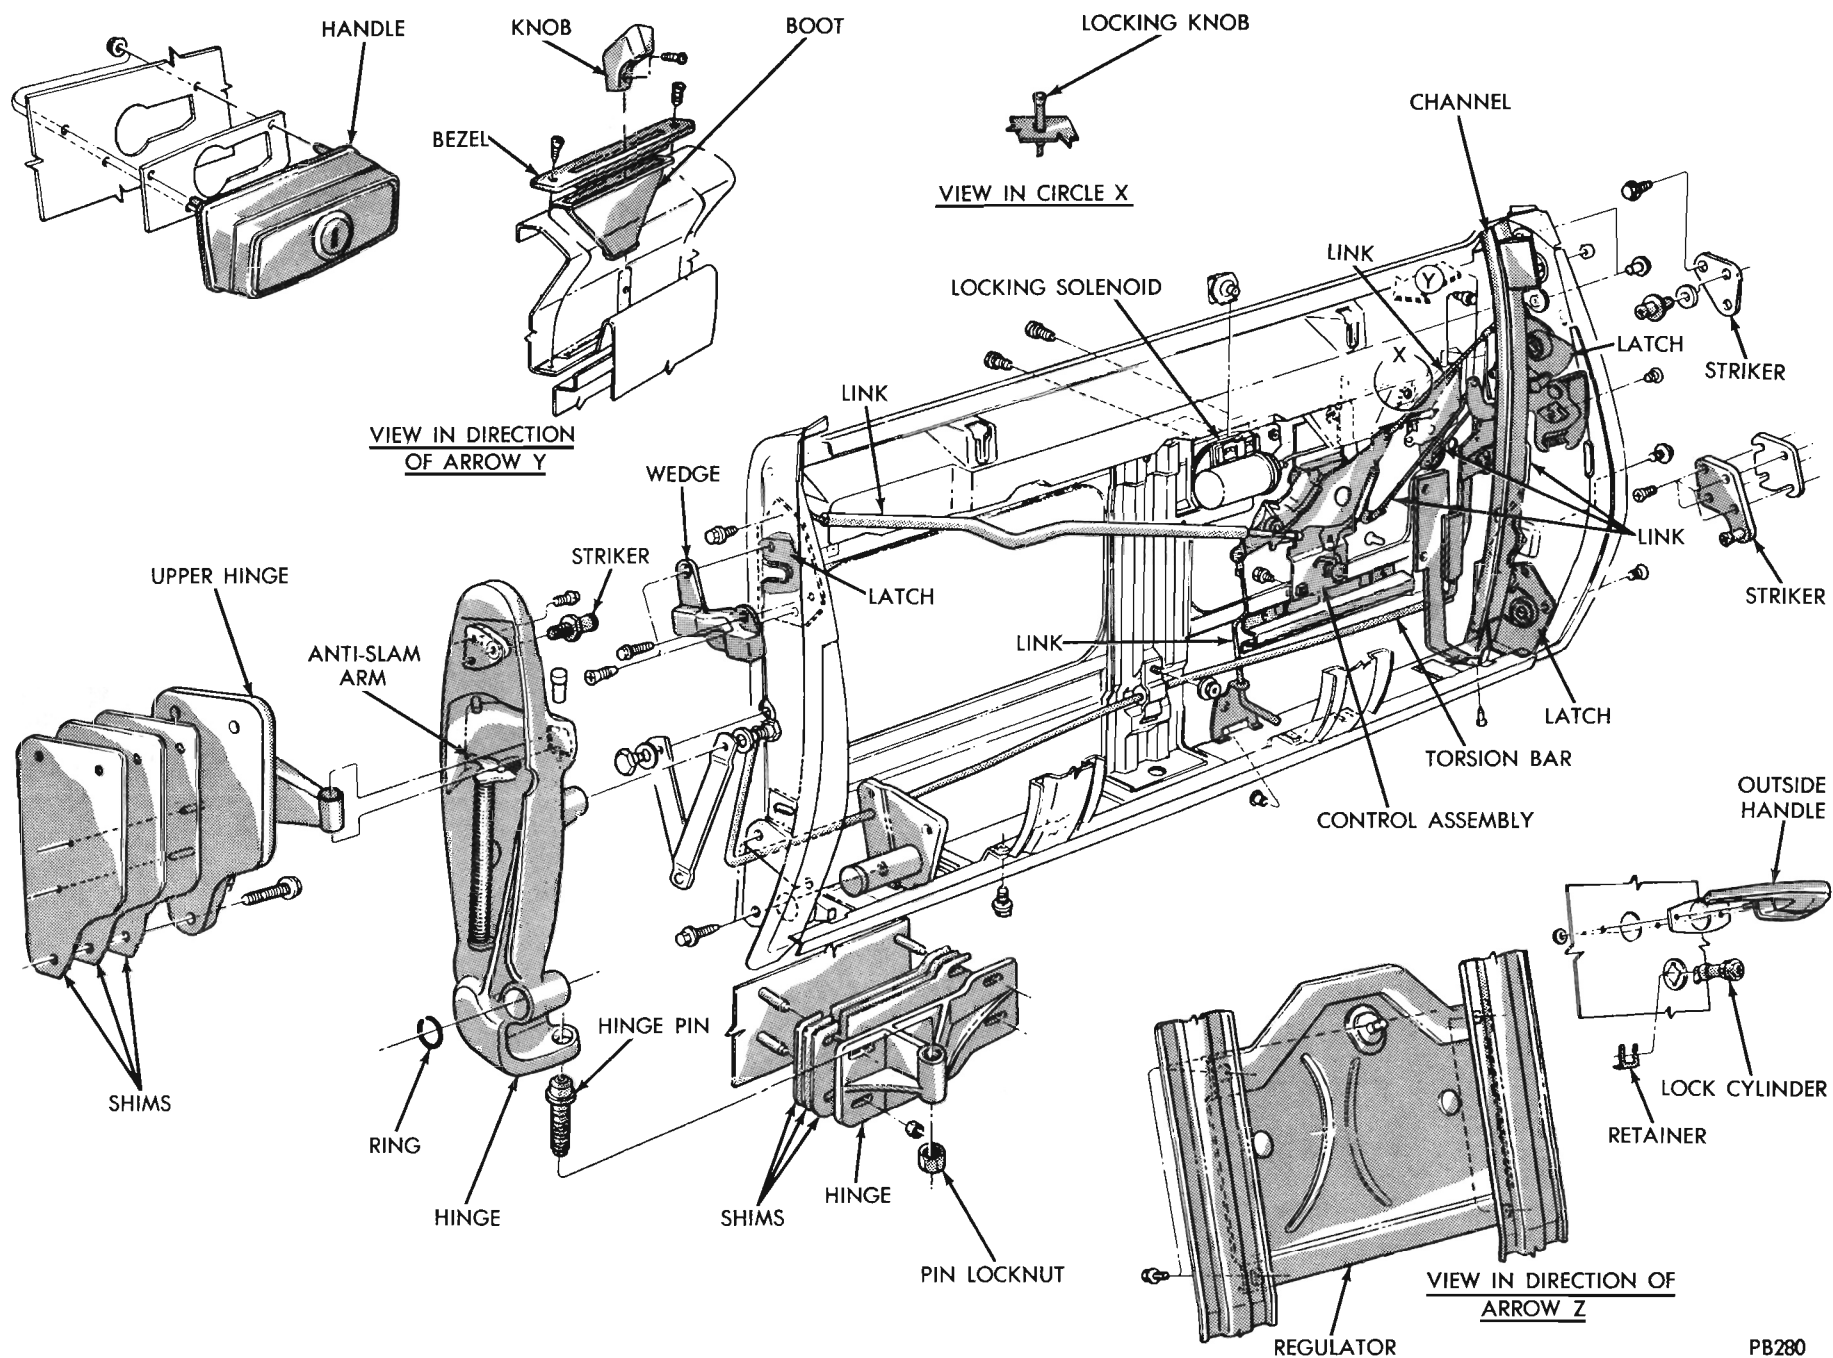

Fig. 27 - Tailgate Application
1. Hinge pin adjustment, (Fig. 27).
- (1) Remove check arm and torsion bar guide from pillar guide plates.
- (2) Support tailgate on jacks or stands.
- (3) Loosen hinge pivot pin locking screws (Fig. 27).
- (4) Use a pencil and outline hinge plate position on pillar post for future assembly.
- (5) Remove hinge plate attaching bolts from pillar post.
- (6) Slide hinge plate and torsion bar in through guide toward center of tailgate.
- (7) Lower tailgate down and out of body opening.
To replace the lock assembly (Fig. 27) remove trim panel glass and glass runs. The lock assembly is retained on tailgate by screws accessible at end of tailgate. The lock cylinder assembly is retained on the outer panel with a horseshoe type retainer.